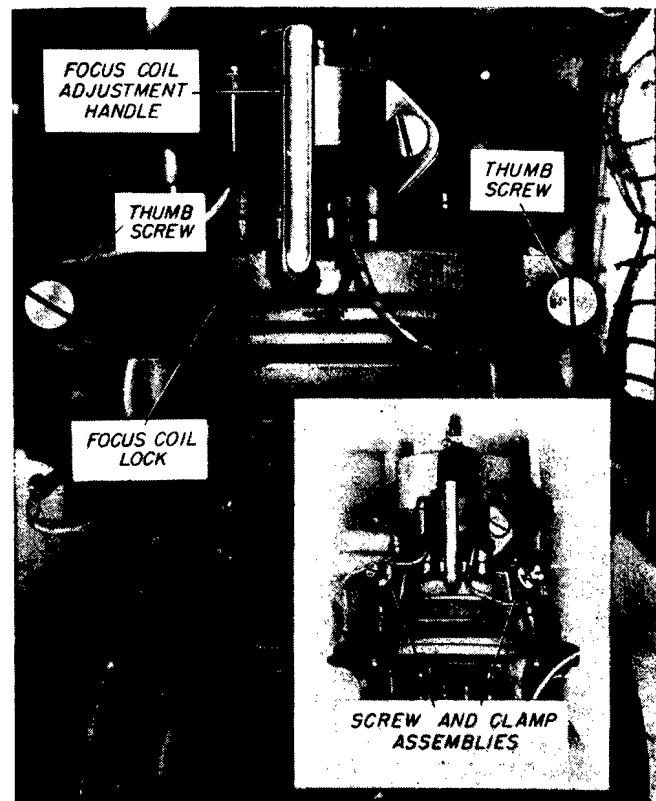

Figure 3-48. PPI Focus Coil Adjustment
(9) Loosen the clamp locks and clamps on the focus coil, L-514, and grasp the handle. The clamp and focus coil adjustment are shown in Fig. 3-48. Rotate the coil until the start of the sweep line is in the center of the tube. The center is located at the end of the etched bearing line over the face of the tube. Re-tighten clamps and locks. It may be necessary to readjust the focus coil after all the other tests have been made.
(14) In a similar manner, using appropriate marks from the calibrator, align the 20, 80, and 200 mile ranges by adjusting L-503, L-504 and L-505 respectively.
(15) With a trigger applied, the **RANGE SELECTOR** switch at 80 miles, the **MARKERS** control and **INTENSITY CONTROL** adjusted so that dots appear, adjust potentiometer R-509, shown in Fig. 3-48, so that exactly 4 dots (not counting the center) appear on the face of the tube. Next, adjust potentiometer R-519 so that the fourth dot is about one-half inch from the usable edge of the tube.
(16) Switch the **RANGE SELECTOR** to 200 miles and adjust potentiometer R-510 so that the fourth dot is at the end of the sweep. Now adjust potentiometer R-518 so that the fourth dot on both ranges coincide when the **RANGE SELECTOR** is rapidly shifted from 200 to 80. The other dots should also coincide very closely. Repeat this adjustment on the 20-mile range using potentiometers R-508 and R-520, and on the 4-mile range using potentiometers